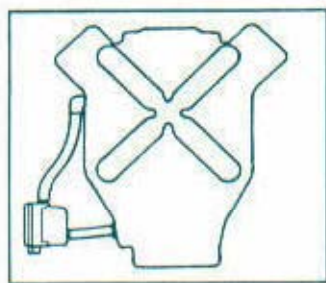
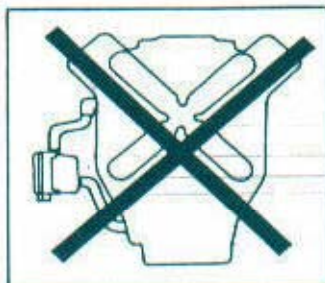

Figure 1 – Correct Installation
Figure 2 – Incorrect: Heater Mounted Too High
- 1.1.3 Determine the Heater Outlet Connection – Plan to splice the heater outlet hose into the hose line coming from the passenger compartment heater to the engine block. Keep the outlet hose length as short as possible but maintain a minimum rise of 12 inches to ensure proper circulation. Avoid selecting a heater location that requires the hose to be routed in a manner that will restrict coolant flow such as routing over the top of the engine block. Avoid sharp bends or loops to ensure against airlocks. Coolant may not circulate if airlocks are present. See Figures 1 to 4 below.
1.2.1.2 It is best to mount the heater below the lowest point of the cooling system to ensure that adequate pressure head is provided to the heater inlet and to ensure that thermosyphon coolant flow is maximized. See Figure 1. Coolant flow may be restricted if the heater is mounted too high. See Figure 2.